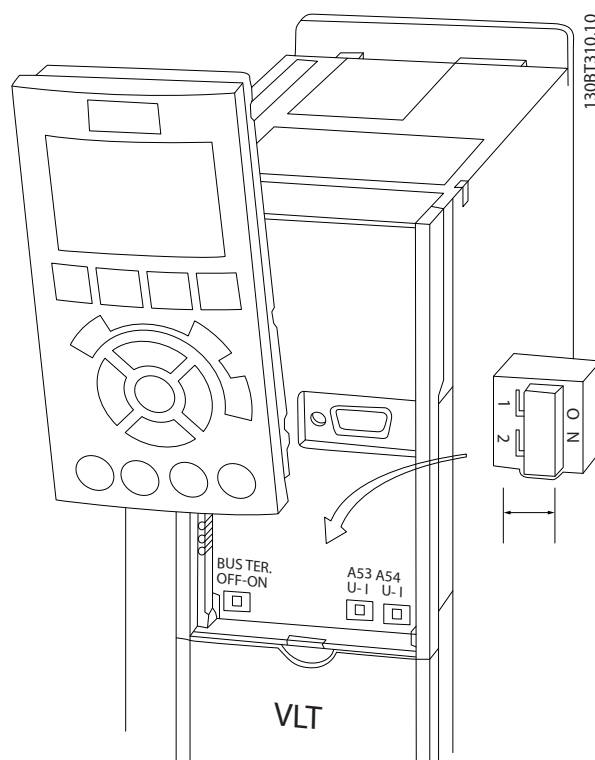

Figure 2.22 Location of Terminals 53 and 54 Switches
- The switches are accessible when the LCP has been removed (see *Figure 2.22*). Note that some option cards available for the unit may cover these switches and must be removed to change switch settings. Always remove power to the unit before removing option cards.